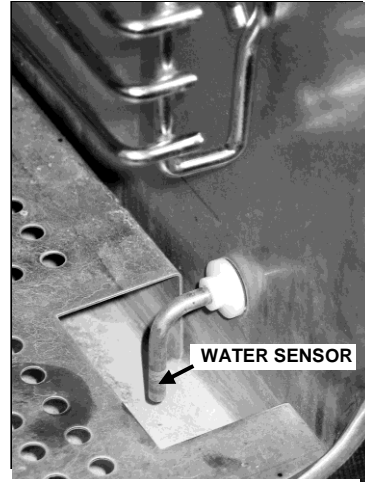

Figure 4-1
- The Add Water alarm and indicator will turn ON whenever the water level drops below the water sensor located at the lower right front of the steamer's interior. (See Figure 4-1.)
- **NOTE:** The heating elements de-energize and the display reads "Add h2o" whenever the water level drops below the water sensor located at the lower right front of the cooking compartment. (See Figure 4-1.)